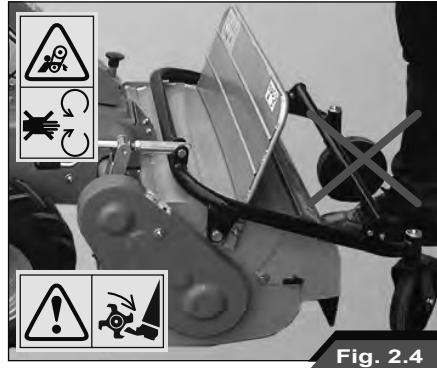

Fig. 2.4
- Before starting the machine, always make sure that other people stand clear of the area around the rotor (Fig. 2.4).